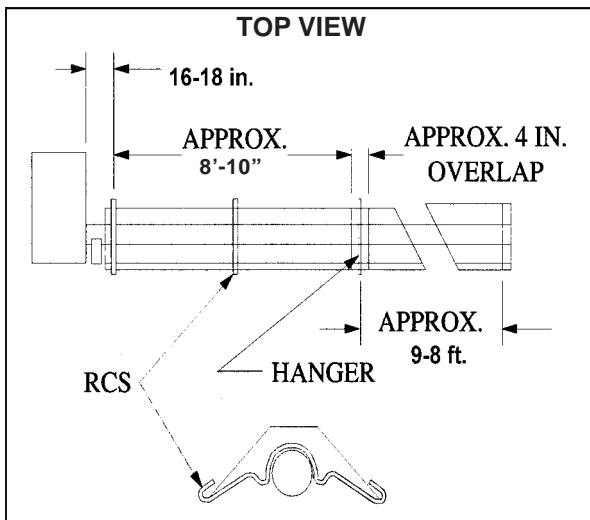
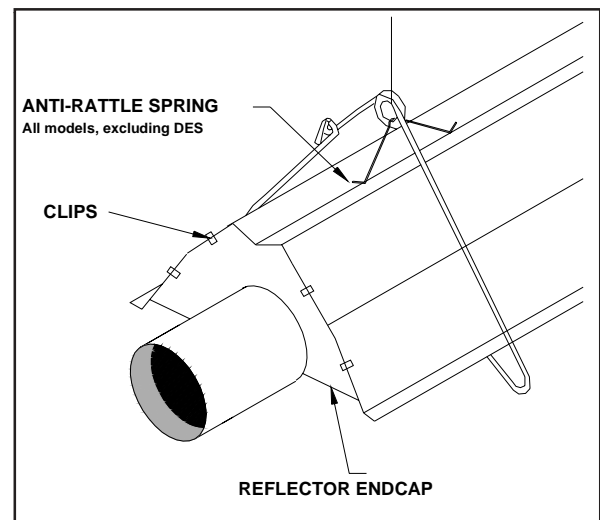

Fig. 2-16
Fig. 2-17
1. Install reflector center supports (RCS) as shown in figure 2-16.
2. Slide reflector through wire hangers and adjust the reflector positioning spring in the V-groove on top of the reflector (figure 2-17). Overlap reflectors 4in. for support (figure 2-16).
4. Install reflector end caps, with polished finish to the inside, at exposed ends of the reflector runs with clips (figure 2-17).